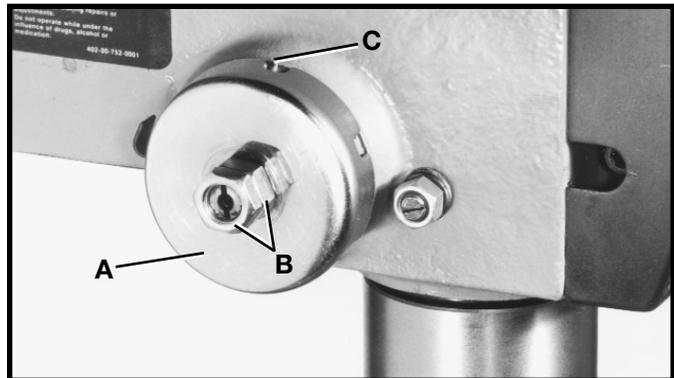

Fig. 28
For the purpose of automatically returning the spindle upward after a hole has been drilled, a spindle return spring is provided in the spring housing (A) Fig. 28. This spring has been properly adjusted at the factory and should not be disturbed unless absolutely necessary. To adjust the return spring, proceed as follows:
1. Loosen the two nuts (B) Fig. 28, approximately one-quarter inch. **IMPORTANT: DO NOT REMOVE NUTS (B) FROM SHAFT.**
2. While **FIRMLY** holding spring housing (A) Fig. 28, pull out housing and rotate it until the roll pin (C) is engaged with the next notch on the housing. Turn the housing counterclockwise to increase and clockwise to decrease spring tension. Then tighten the two nuts (B) to hold the housing in place. **IMPORTANT: NUTS (B) SHOULD NOT CONTACT SPRING HOUSING (A) WHEN TIGHT.**